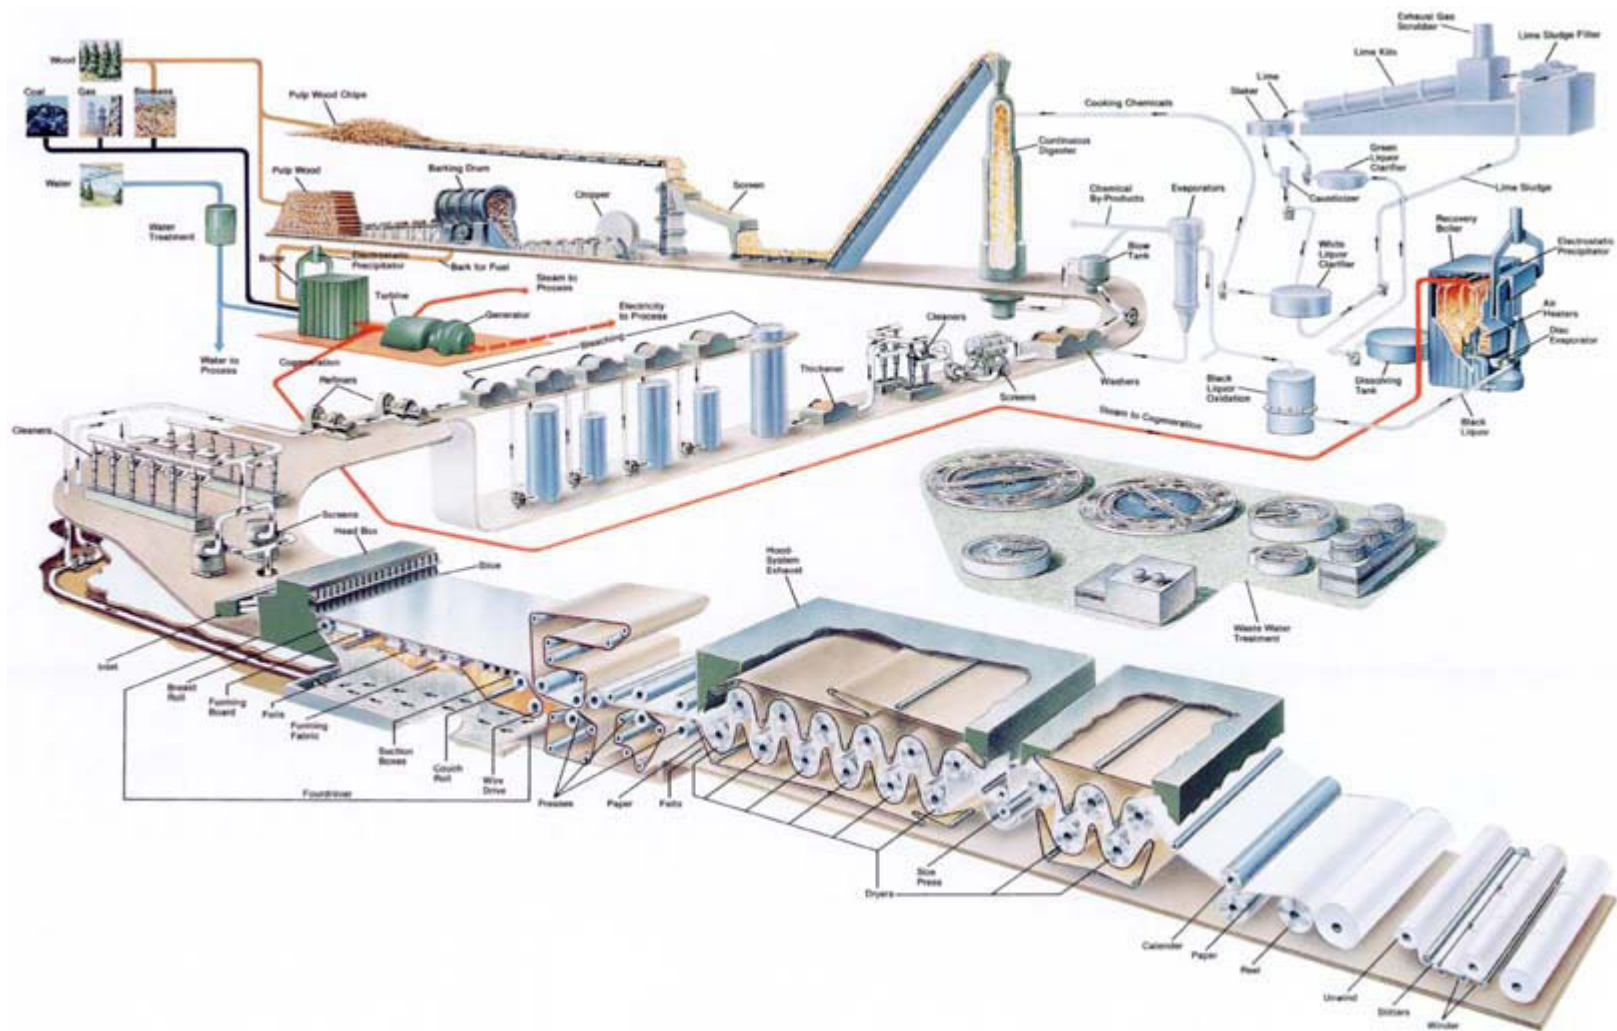

Figure 11-10. Schematic of the Kraft papermaking process. (Printed with the permission of the Westvaco Corporation, New York, NY.)
Figure 11-10 shows a schematic of one of the major papermaking processes, called the *Kraft process*. This complex process can be divided into four stages, or steps: (1) preparation of wood chips in the woodyard, (2) conversion of the wood chips to pulp, (3) conversion of the pulp to paper, and (4) recycling of chemicals, energy, and water. Let's look at the different things that happen in each stage and the way ceramics are involved.